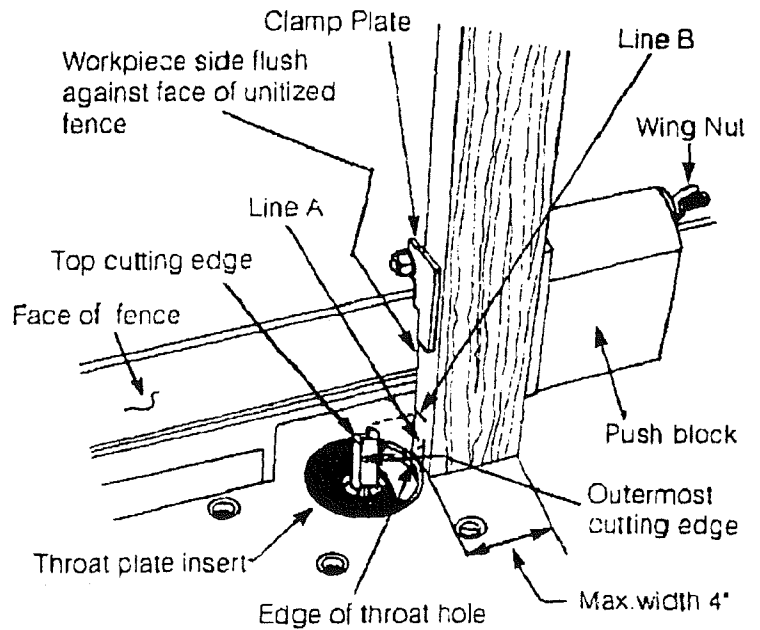

FIGURE 29.
4. Mark lines "A" and "B" on the edge of the workpiece close to the end to be cut. Line "A" for FULL DEPTH OF CUT (total amount of material you want to remove) and line "B" for FULL DESIRED HEIGHT OF TENON. See Figure 29
5. Position workpiece between clamp plate and push block so that its side is held flush against face of the unitized fence, the end to be cut is resting on the edge of the throat plate hole and edge marked with lines "A" and "B" is facing router bit. Clamp workpiece in this position by snugly tightening the wing nut on clamp rod while making sure that clamp plate stays oriented on workpiece, as shown in Figure 29. MAKE SURE ROUTER IS UNPLUGGED WHEN POSITIONING AND CLAMPING WORKPIECE AND MAKING ADJUSTMENTS.
6. Slide workpiece close to the bit and adjust unitized fence and the router as described before so that outer most cutting edge of bit is aligned with line "A" and top cutting edge of bit is aligned with line "B". See Figure 29. Tightly secure the fence and the router as described before in ADJUSTING DEPTH AND HEIGHT OF CUT.